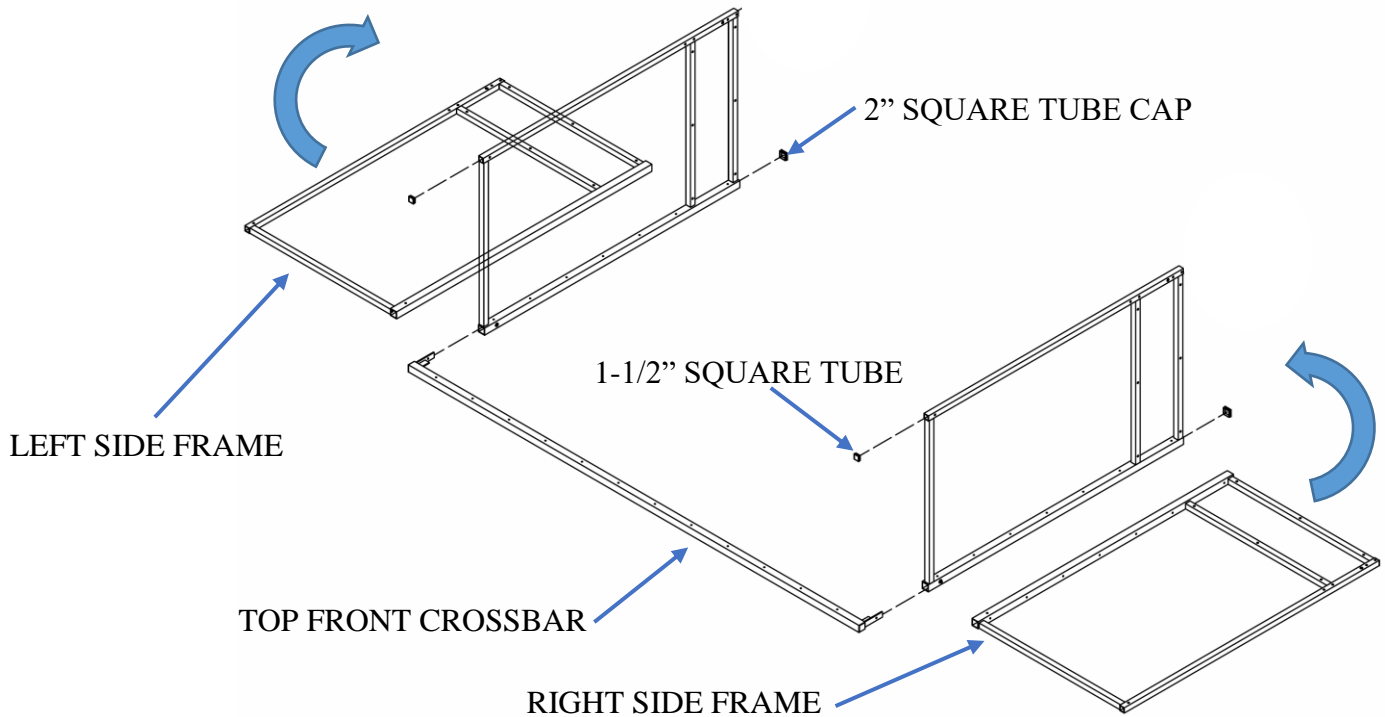

Figure 1
- 2) Assemble both side frames onto the Top Crossbar, as shown in Figure 1.